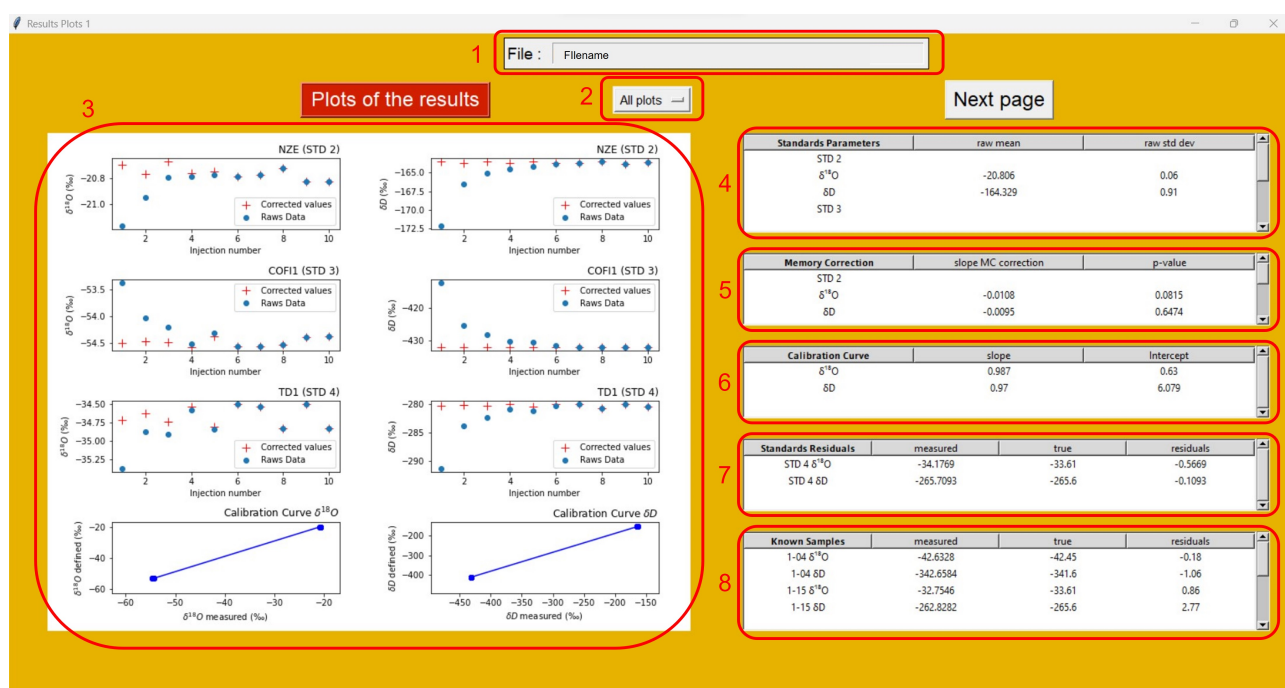

Figure 3: Screenshot of the first page of results of ALWIC-tool
When the processing button is pressed and all the calculation made a new window appears. It looks like fig. 3. The parameters of the correction are shown on this page.
- 2 : When this is set to all plots the page looks like the figure 3. But if you choose an another plot the tables on the right will be overwritten to put a zoom on the plot you selected. To view again the tables, select all plots.